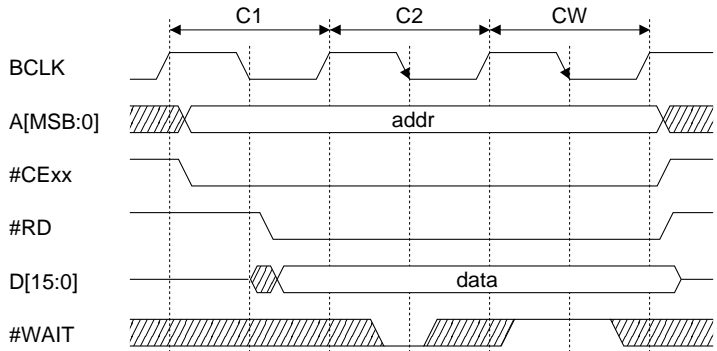

Figure II.4.22 Read Cycle with #WAIT Control
In the case of Figure II.4.22, #WAIT = low is sampled, so a wait cycle (CW) due to the #WAIT signal is inserted subsequent to the C2 cycle. In this example, 1-wait cycle only is inserted because #WAIT = high is sampled during the inserted wait (CW) cycle. If #WAIT = low is sampled during the CW cycle, one more wait cycle is added.